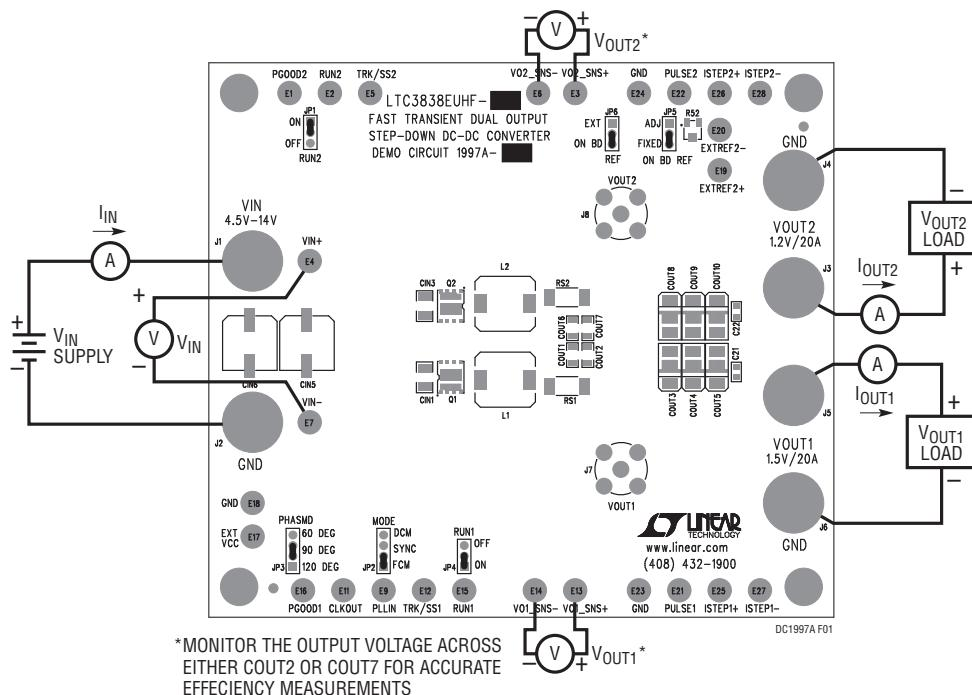

Figure 1. Proper Measurement Equipment Setup
Demonstration circuit DC1997A-A/DC1997A-B is easy to set up to evaluate the performance of the LTC3838EUHF-1/ LTC3838EUHF-2. Please refer to Figure 1 for proper measurement equipment setup and follow the procedure below.
1. With power off, connect the input supply, load and meters as shown in Figure 1. Preset the load to 0A and VIN supply to be 0V. For both assemblies, place the jumpers in the following positions: